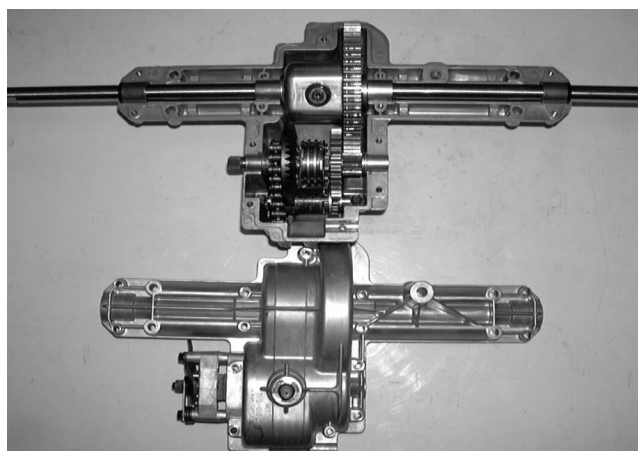

FIGURE 7.
- 19). Place the upper transmission housing over the lower housing and secure them together with the self tapping screws removed earlier, using a 3/8 socket. See figure 7.